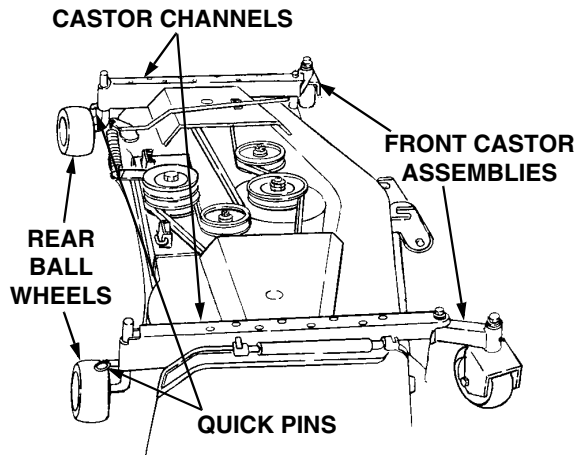

Figure 28
2. To aid in sliding the deck under the tractor, reposition all four ball wheels as shown in Figure 28. To reposition the rear wheels; remove the quick pins, rotate the rear wheels 90°, and raise them to their uppermost position in the castor channels. Install the two quick pins in the rear holes of the castor channels to secure the rear wheels in this position. Temporarily remove the quick pins and rotate the front castor assemblies outward. The deck should now rest in its lowest position on the surface below.